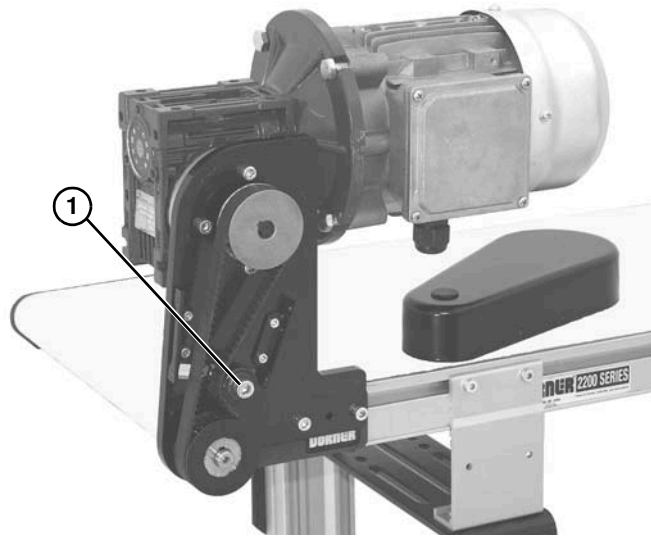

Figure 16
2. Loosen tensioner assembly (**Figure 16, item 1**).